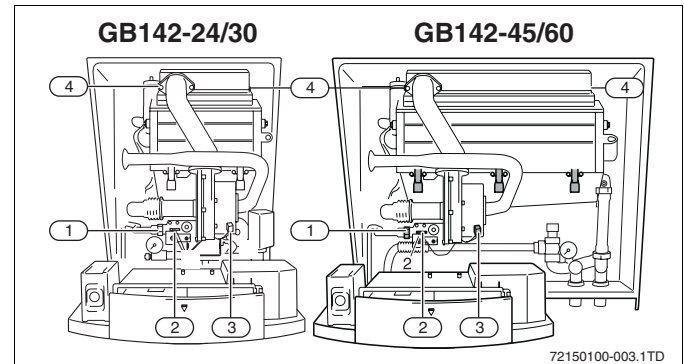

Fig. 3
- ▶ Loosen the screw connection on the gas valve (→ fig. 3, [1]) and pull the plug (→ fig. 3, [2]) from the gas valve.
- ▶ Pull both plugs from the fan unit (→ fig. 3, [3]).
- ▶ Loosen both retaining clips (→ fig. 3, [4]) on the burner cover and remove the burner cover together with the fan unit and the gas valve.